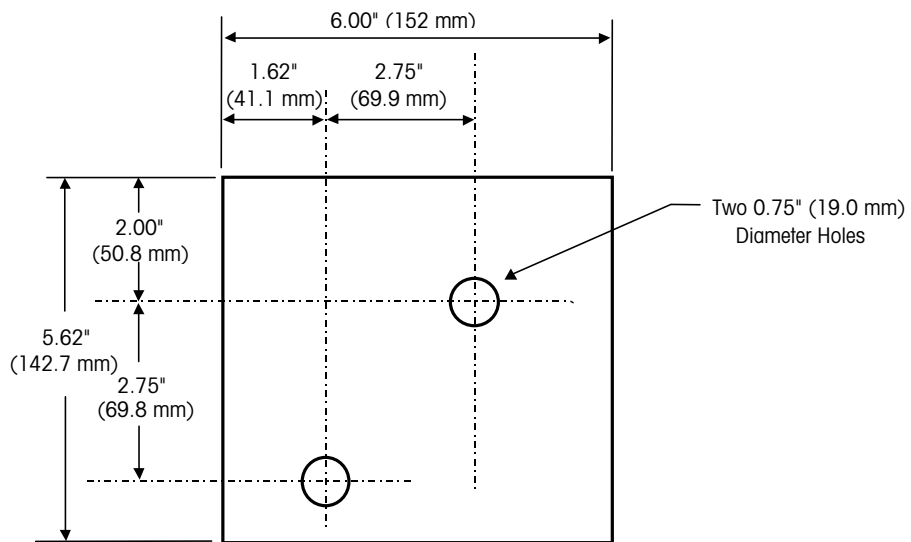

Figure 3-2: Leveling Shim Detail
3. All corners of the frame must be in contact with the floor and must be level within $\pm 1/16"$. If the scale is out of level or if gaps exist between the frame and floor, shimming is required. Corner shims (1/16" thick) can be purchased from METTLER TOLEDO or fabricated using Figure 3-2 as a guide.